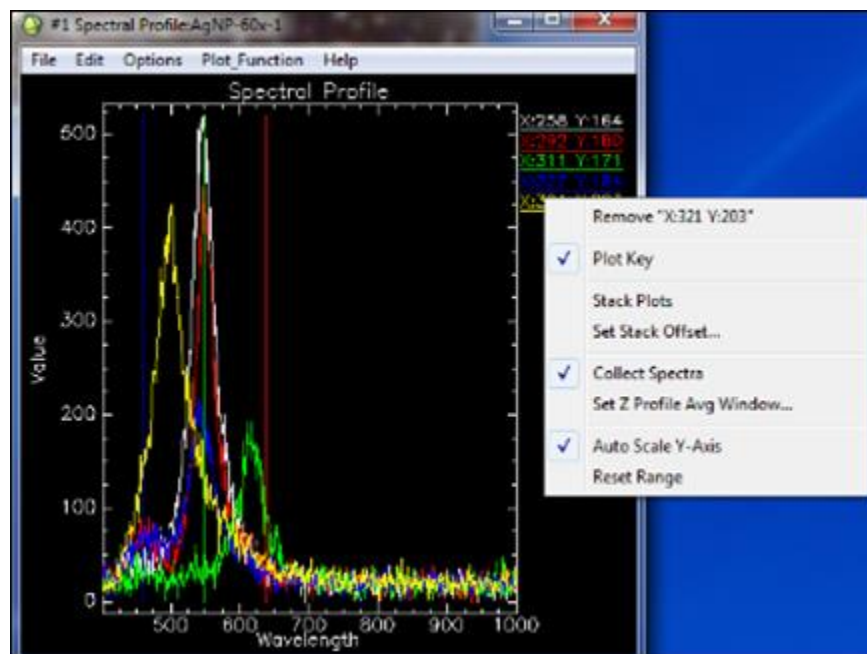

Figure 2.8c. Window to collect spectra from multiple regions
- Select Collect Spectra. A new curve is added to the plot each time a new area of the image is clicked (Figure 2.8c).